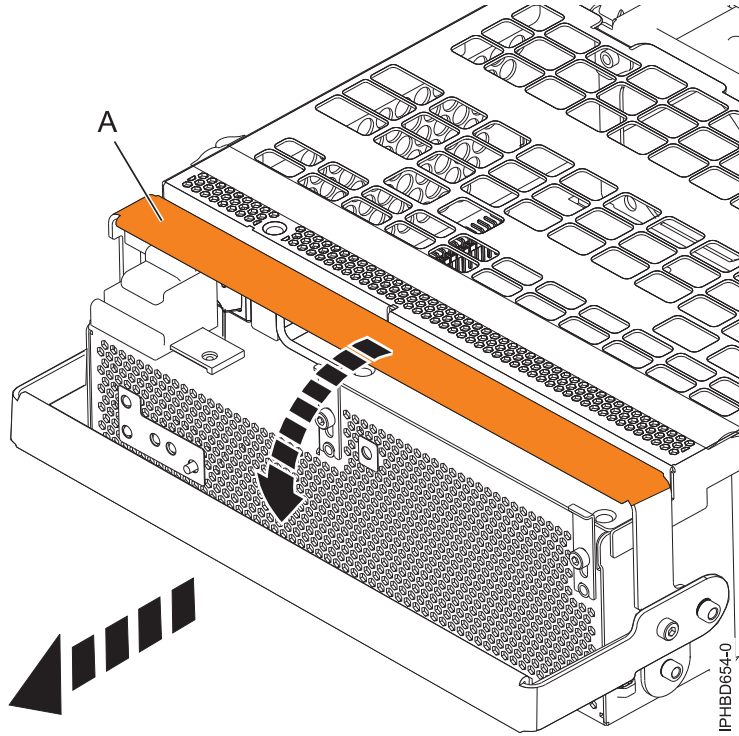

Figure 58. Removing a power supply
7. Rotate the power-supply locking handle (A) to the open position as shown in Figure 58 on page 74. Pull the power supply out of the expansion unit.